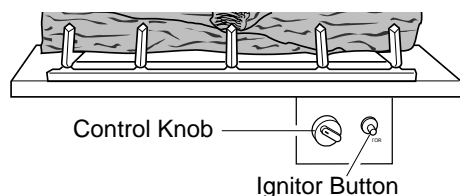

Figure 41 - Control Knob and Ignitor Button Location
3. Turn control knob clockwise  to the OFF position. (see Figure 41, page 19)
4. Wait five (5) minutes to clear out any gas. Then smell for gas, including near the floor. If you smell gas, **STOP!** Follow "B" in the safety information, column 2. If you don't smell gas, go to the next step.
5. Slightly depress and turn control knob counterclockwise  to the PILOT position. Press in control knob for five (5) seconds (see Figure 41, page 19).